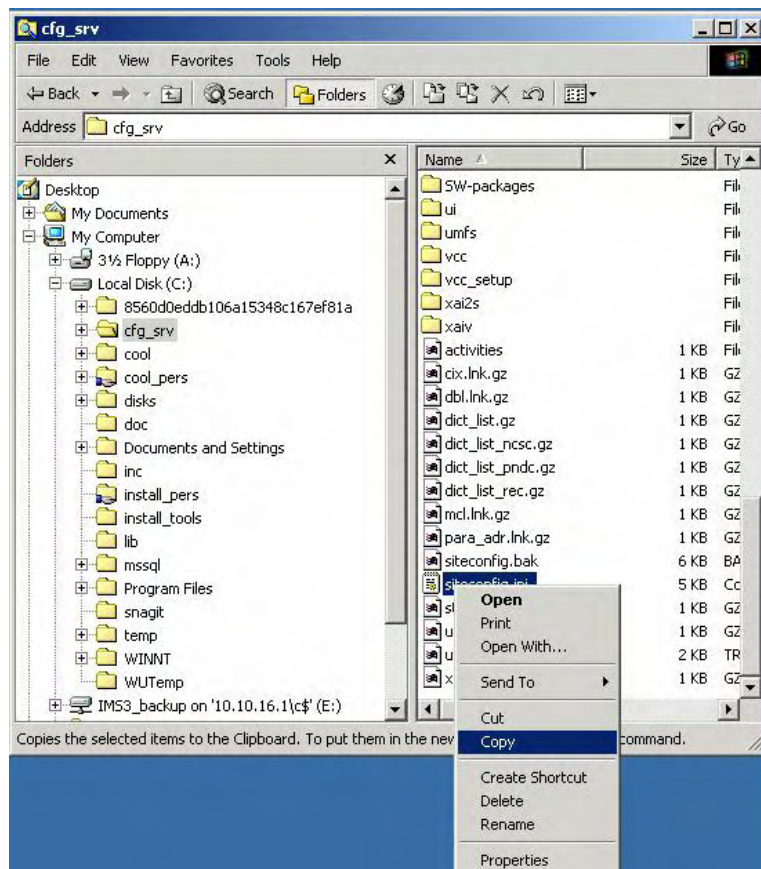

Figure 1-152. Copy SiteConfig.ini
4. Open Windows explorer. Select the folder **c:\cfg_srv** from the left pane and locate the file **siteconfig.ini** in the right pane (Figure 1-152).